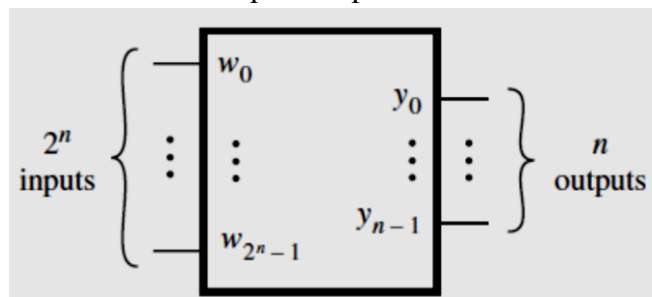

Figure 6.2 Encoder
- A binary encoder encodes information from 2^n inputs into an n -bit code, as indicated in Fig. 6.2.